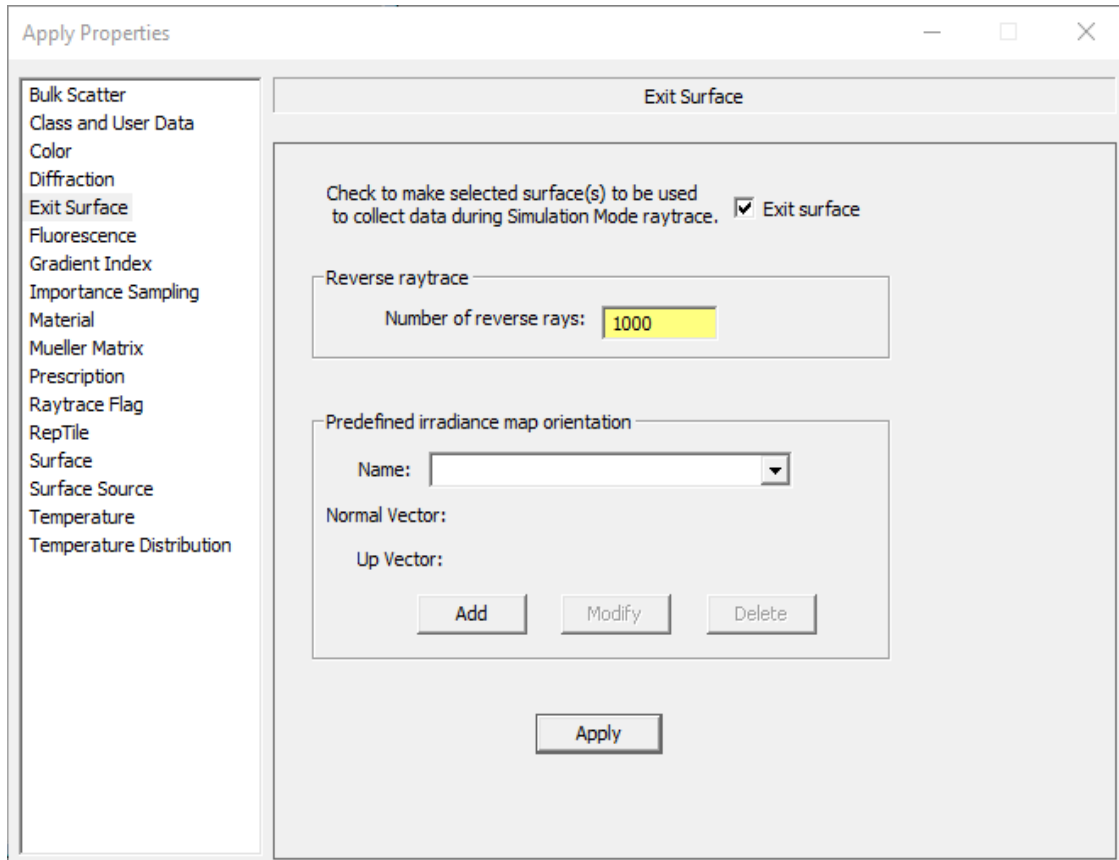

FIGURE 9.55 - Apply Properties dialog box showing the exit surface defined. 1000 reverse rays have been applied to the exit surface.
Using the EllipticalReflector_Reverse.oml model, select the **Observation disk:Front** surface and then select **Define|Apply Properties** to open the **Apply Properties** dialog box. Select the **Exit Surface** tab, check the **Exit surface** checkbox, and enter 1000 for the *Number of reverse rays*, as shown in Figure 9.55. Click **Apply** to apply the setting to the surface.
4. Setting the number of Reverse Rays on the Front surface as in Figure 9.55 on page 9.53.